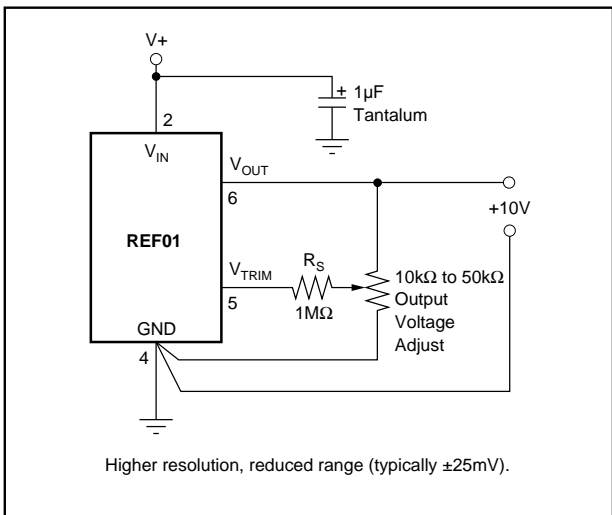

FIGURE 2. High Resolution Output Adjustment.
(6) eB is measured at the lead tips with the leads unconstrained.
(7) N is the maximum number of terminal positions.
(8) Corner leads (1, 4, 5, and 8) may be configured as shown in Figure 2.
(9) For automatic insertion, any raised irregularity on the top surface (step, mesa, etc.) shall be symmetrical about the lateral and longitudinal package center-lines.